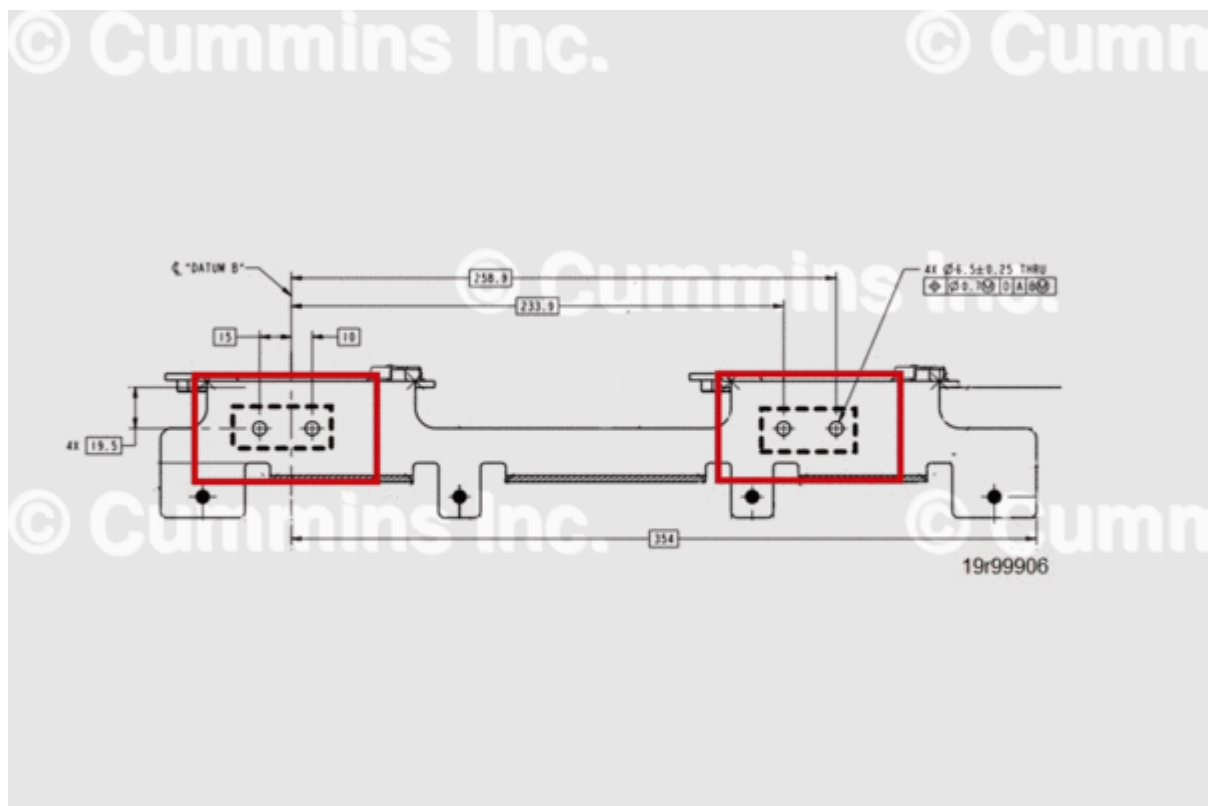

Figure 1, Drilling Locations Indicated by Dashed Boxes.
2. Locate and centre punch the injector / exhaust gas temperature sensor (EGTS) harness bracket where holes are to be drilled, marked by the dashed boxes in the diagram in Figure 1.